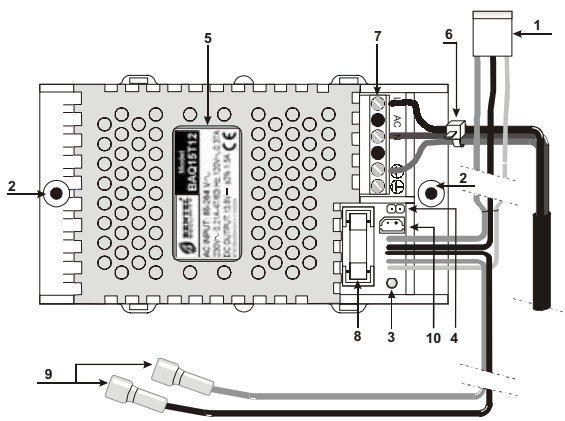

Fig. 1 - Identificazione delle parti-Identification of parts-Identificación de los componentes-Identification des éléments
The **BAQ15T12** Switching Power Supply/Battery Charger can be housed inside the Control panel box. The Input Voltage can vary from 90 to 264V~. The Output Voltage is protected against overload, short-circuit and battery polarity inversion. When completing the connections, refer to the wiring diagram in **Fig. 1**.
**IMPORTANT: This device must be earthed.** The incoming wires to Input terminal 7 must be bunched by means of the clamp band (6 in fig. 1). The battery can be secured inside the Control panel box by means of the screw locations 2. The **BAQ15T12** has an Output Voltage of 13.8 V=. The battery charge process can be optimized by connecting a **KST** thermal probe. If you connect a **KST** to the probe connector 10, you must insert the Jumper 4.